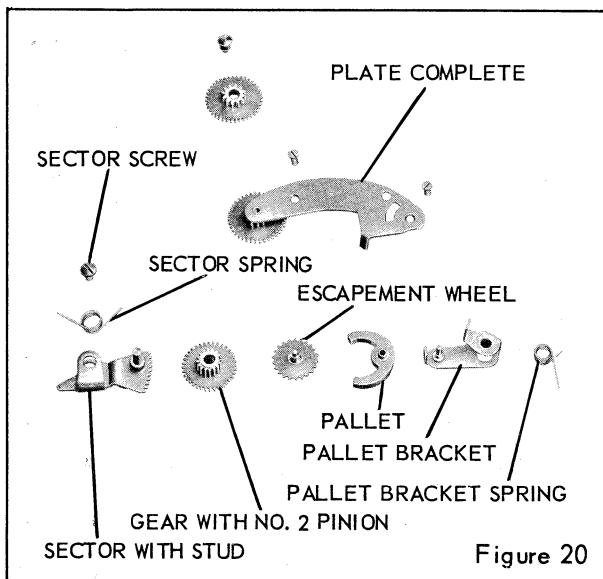

Figure 20
4. Retard gear PLATE COMPLETE, figure 20.